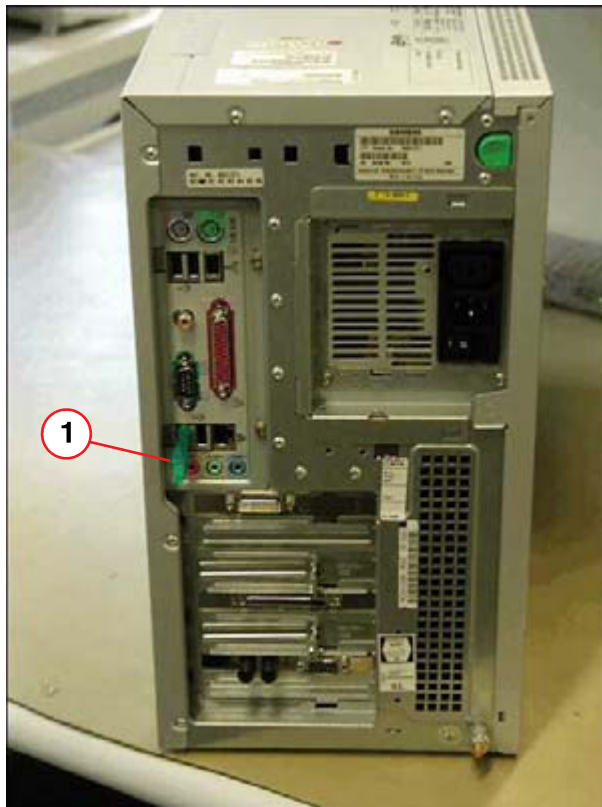

Fig. 40: AWS
- Remove the dongle from the old computer and attach it to the new one (1/ Fig. 40 / p. 63).